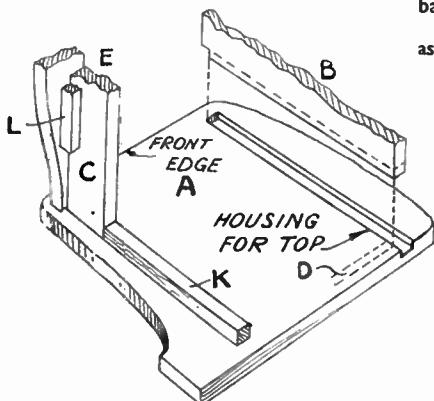

Fig. 2—Under view of parts
back panel to the ends are kept well in from the edges of the latter. This is distinctly seen in the two constructional details Figs. 2 and 3.
Now the simplest way to form these grooves is by cutting them so that they run through at the back, as seen in Fig. 2. Where the top shelf is stopped off at the front, just before reaching the edge of the ends (A), the groove is cut down neatly with the chisel.
Along the front of rail (C) goes the front shaped rail (E). This is simply screwed on with its top edge flush with the top surface of rail (C), as seen in Figs. 2 and 4. Countersunk screws are again used here with heads filled.
Admittedly such methods of application rather messes up the fingers, and a cleaner system of colouring is to use the dabber, shown at (E) in Fig. 2, and mentioned before. A piece of tin or even an old postcard will be handy here to use as a protective screen to prevent the colour spreading beyond the pane or division intended.